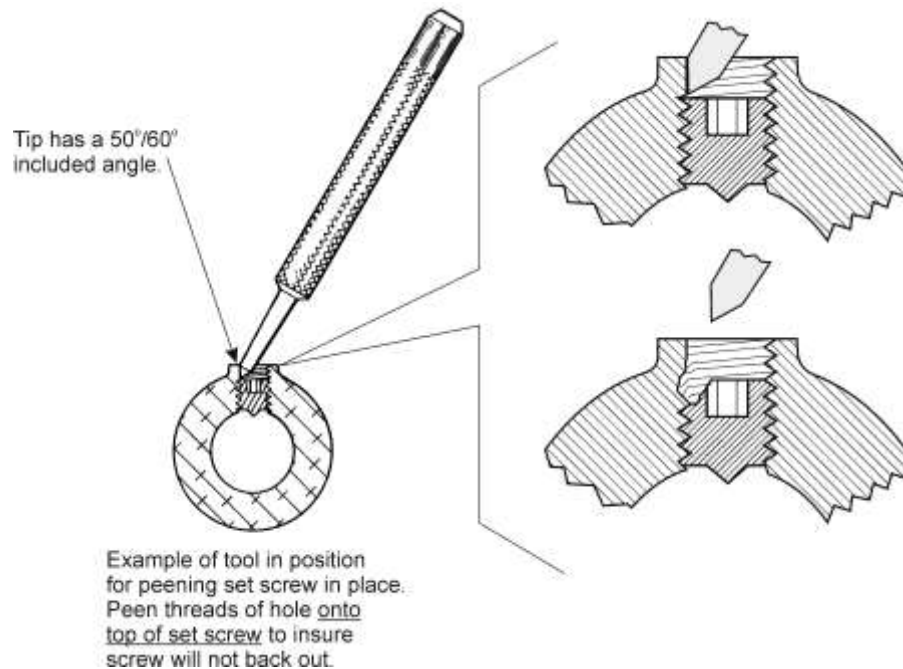

Figure 71
- (3) Torque the set screw 32 to 38 in.-lb. (3.6 to 4.3 Nm).
- (4) Use a smaller center punch (peening tool) with a 3/32-inch (2.38 mm) diameter at an approximate 50°/60° angle topeen the threads of the hole at the top of the taper above the set screw to prevent the set screw (as shown in Figure 71) from backing out.